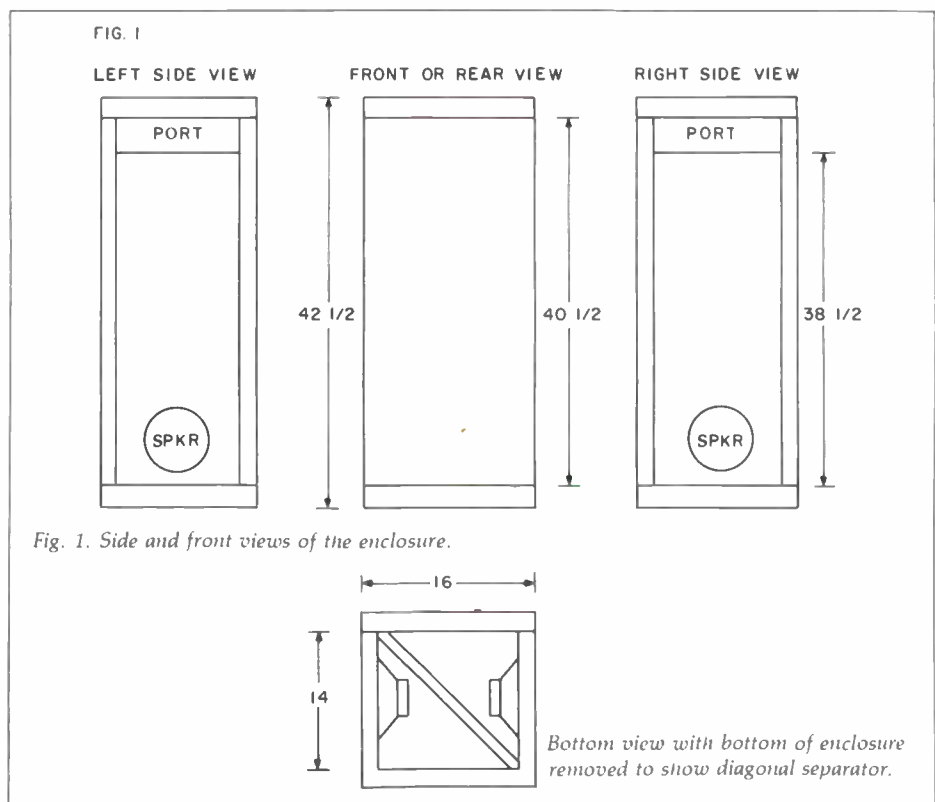

Fig. 1. Side and front views of the enclosure.
Figure 1 shows the outside of the enclosure, which has blank front and rear panels and an 8" speaker mounted at the bottom of each side panel. Above each speaker a port near the enclosure top vents to the atmosphere. The bottom view of the enclosure (with the bottom panel removed) shows a diagonal separator wedged between two
14. Turn the enclosure upside down and look at Fig. 1. Carefully file down the $6\frac{1}{2}$ " side edges of the diagonal separator until you can wedge it into the enclosure as shown. Push it down until its bottom edge is level with the bottom edges of the enclosure panels.